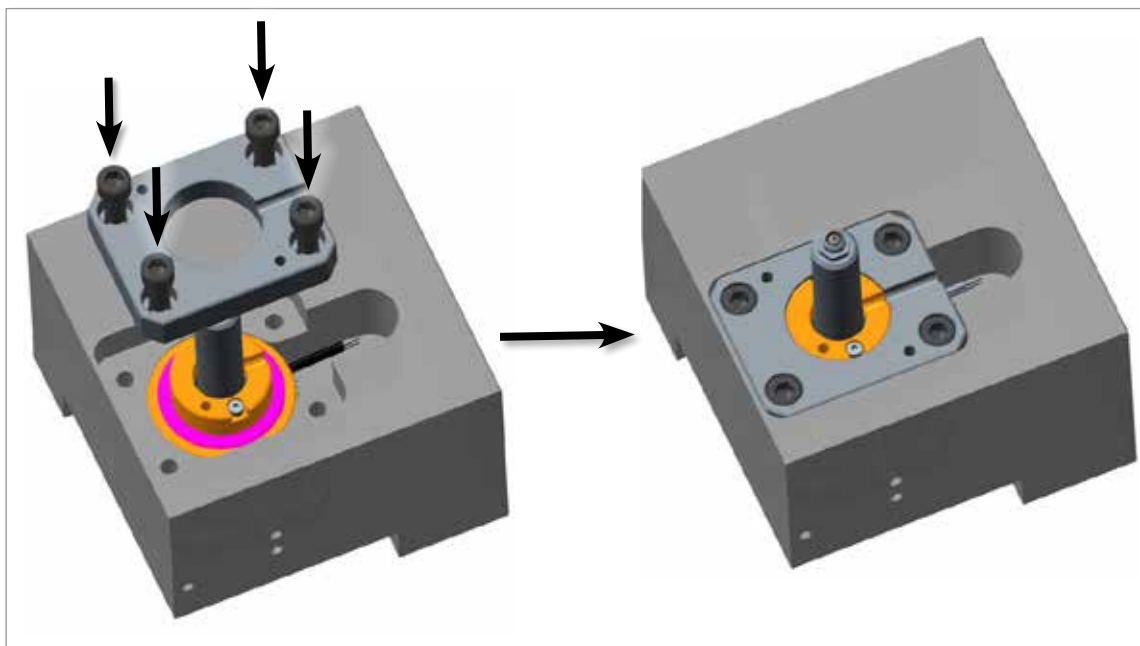

Figure 11-25 Attach custom support plate
6. Attach the custom support plate to the manifold plate with four socket head cap screws. Torque to 72 Nm (53 ft-lb). See Figure 11-25.